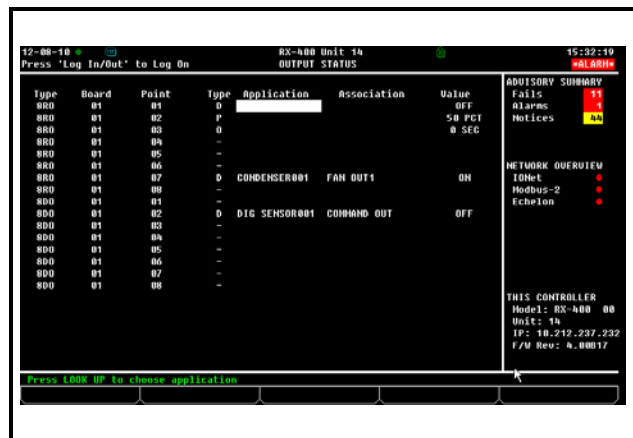

Figure 9-10 - Output Status Screen
Open the Digital Output screen by selecting a Digital (**D**) input from the Output Status screen **Figure 9-10** and pressing **F1** (SETUP).
Open the Analog Output screen by selecting an Analog (A) output from the Output Status screen *Figure 9-10* and pressing **F1** (SETUP).